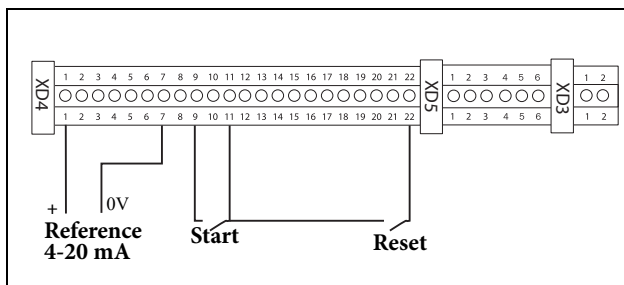

Fig. 19 Wiring
5. Connect digital and analogue inputs/outputs as in Fig. 19.